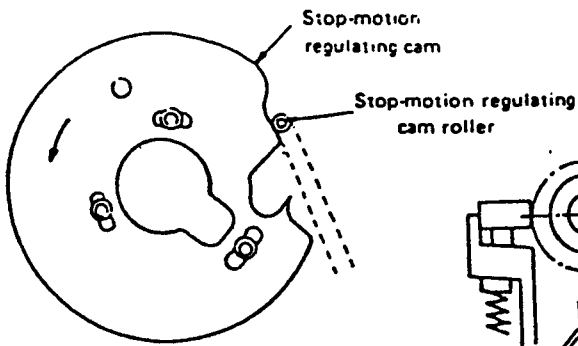

Fig. 7
- 1) Turn the main shaft by hand to obtain the state shown in Fig. 7. (low-speed running)
- 2) Remove the spring ② and spring ③.
- 3) Loosen screw ①, and perform adjustment to allow a 3 mm (0.118") clearance between the stop-motion hook and the knife driving cam.